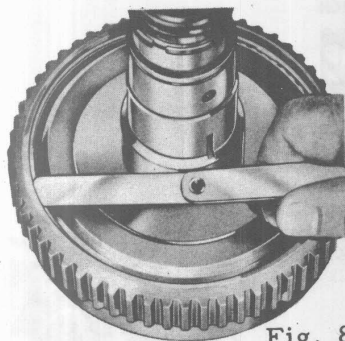

Fig. 8
- ☒ If either the output shaft or ring gear has been replaced, place the assembled unit with the gear face down on the bench. Press the shaft downward. Check the clearance between the top of the snap ring and its groove (Fig. 8). Replace the snap ring with a thicker ring to reduce the clearance to less than .002" if this clearance exceeds .002".